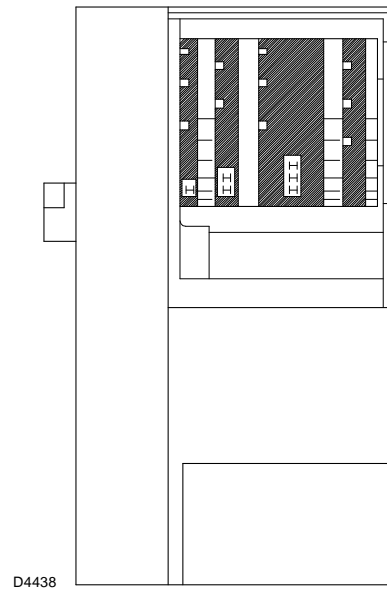

Fig. 21
For any adjustment to **CAM III**, remove the cover 1)(Fig. 21), snap fitted, remove the relative key 2) from inside and insert it into the notch of **CAM III**.